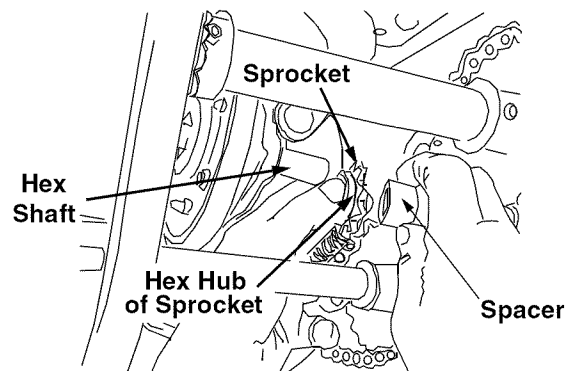

Figure 26
**NOTE:** If the sprocket fell from the snow thrower while removing the hex shaft, place the sprocket on the hex shaft. Position the hex hub of the sprocket toward the friction wheel when sliding the sprocket on to the hex shaft. See Figure 26.